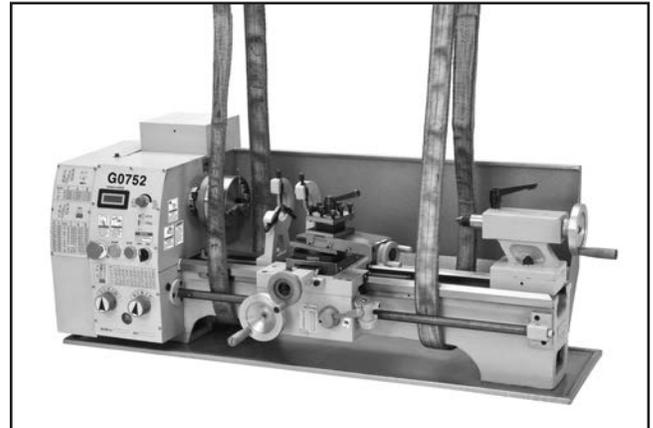

Figure 17. Example of lifting strap positions.
5. Wrap the lifting straps around the bed and between the leadscrew and the bedway, as shown in **Figure 17**, to help prevent bending the leadscrew during lifting.